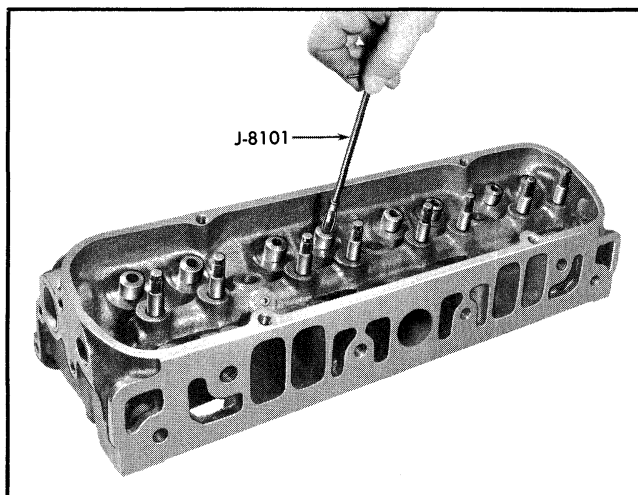

Fig. 6-110 Cleaning Valve Guide With J-8101
4. Clean valve guides thoroughly using valve guide cleaner J-8101 (Fig. 6-110).